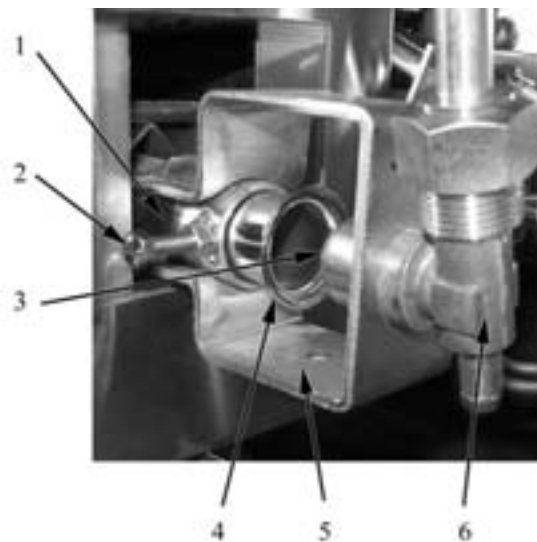

Fig. 6
- Unscrew the nozzle (pos. 3 in Fig. 6) and replace it with the appropriate nozzle;